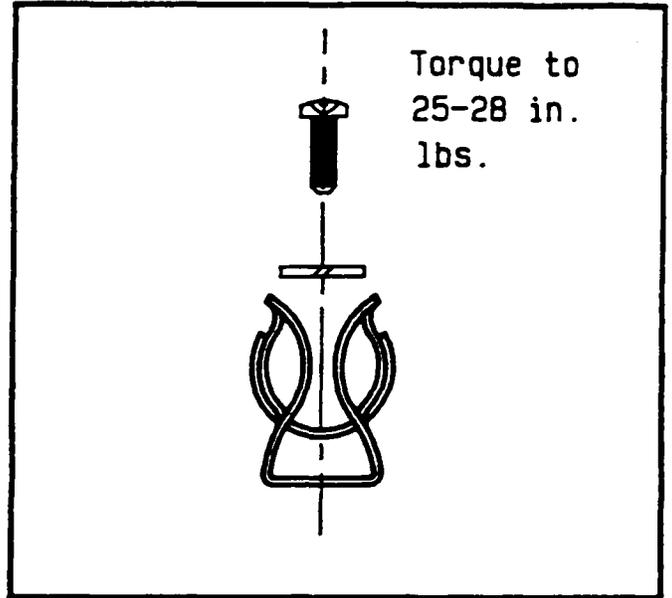

Fig. 4
11. Using Figure 4, install the fuse clips provided, on the disconnect device with #10-32 x 5/16 long panhead machine screws and torque screws to 25-28 in. lbs.
sensitive adhesive wire support on the left inside wall of enclosure (Fig.4, Item B.) Make proper connections to the starter or contactor.
2. Remove the locking ring. Slip operator into the mounting hole from the inside of enclosure. [See Fig. 4 and pay particular attention to the stop button requirement (Item A).] Add appropriate legend plate and secure each device in place with the retaining ring.